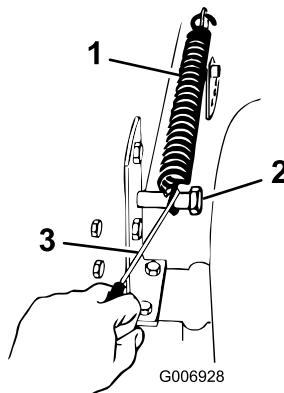

Figure 36
5. Remove the height-of-cut lift assist spring from the retaining bolt (Figure 36). The spring is between the frame and the right rear wheel.
13. Move the height-of-cut lever into the "D" notch. Hook the lift assist spring onto the retaining bolt for storage (Figure 36).